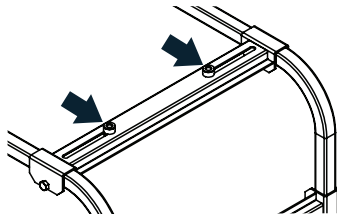

Fig. 5
5. Place the unit on top of the rails as shown in Figure 5, lining up the mounting slots.